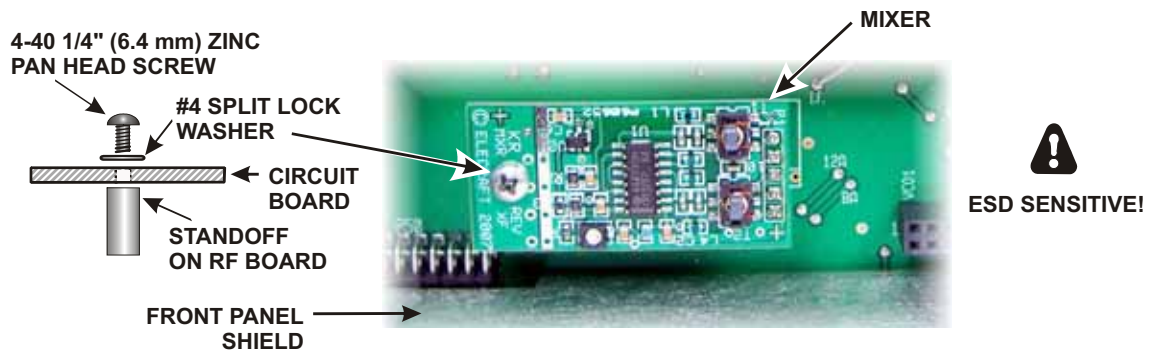

Figure 14. Installing K3 Mixer and KNB3 Noise Blanker Boards.
□ Mount the K3 mixer board on the RF board as shown in Figure 14. The mixer plugs into Z1 on the RF board.